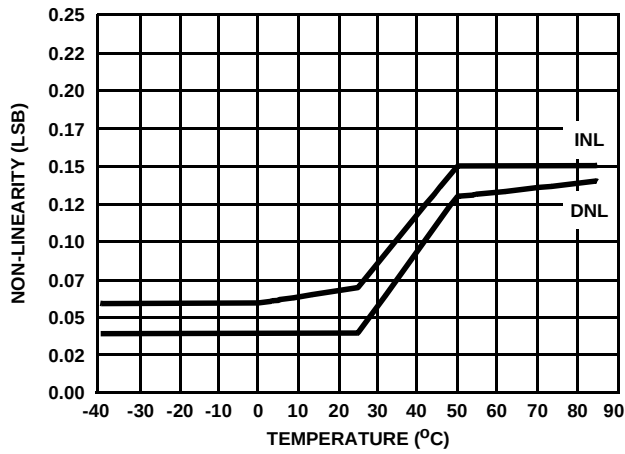

FIGURE 6. NON-LINEARITY vs TEMPERATURE
1. The voltages listed are the ideal centers of each output code shown as a function of its associated reference voltage. See Ideal Transfer Curve Figure 6. The output code should exist for an input equal to the ideal center voltage $\pm 1/2$ of the step size.